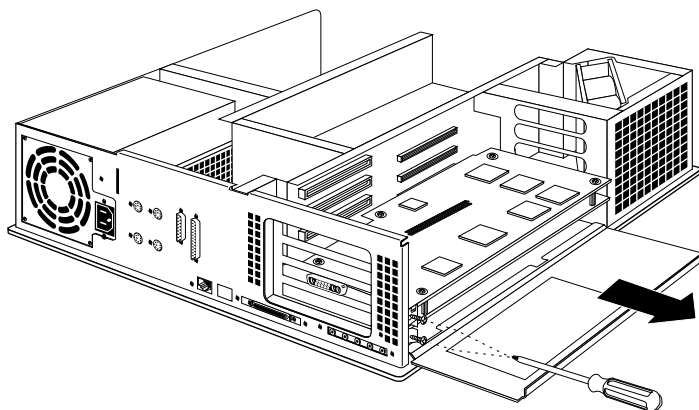

Figure 8-32 Removing the Screws From the Graphics Board Set
4. Remove the screw or screws attaching each board to its expansion slot, as shown in Figure 8-32.